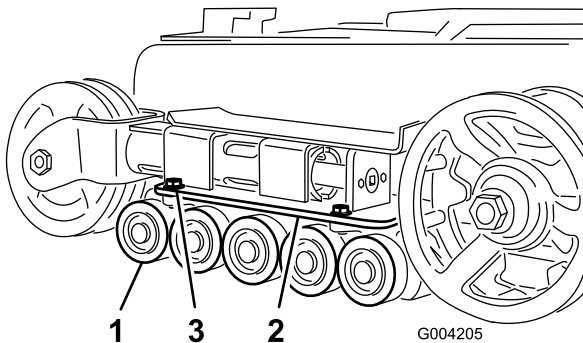

Figure 44
2. Remove the 4 bolts securing each lower track guide which contains the road wheels, and remove them (Figure 44).